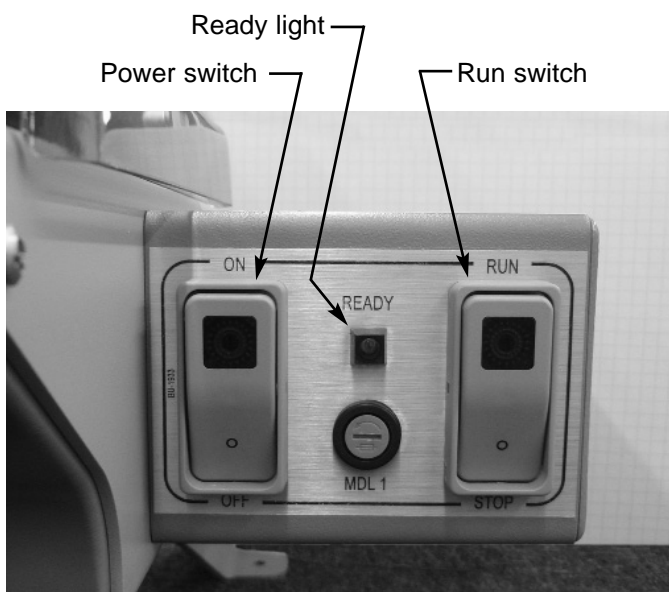

Figure 2.1
A. OPERATING SEQUENCE: (Figure 2.1)